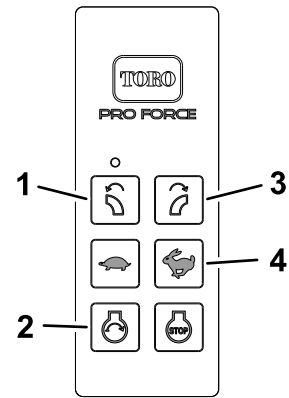

Figure 18
1. Press the START button (Figure 18) on the handheld remote.